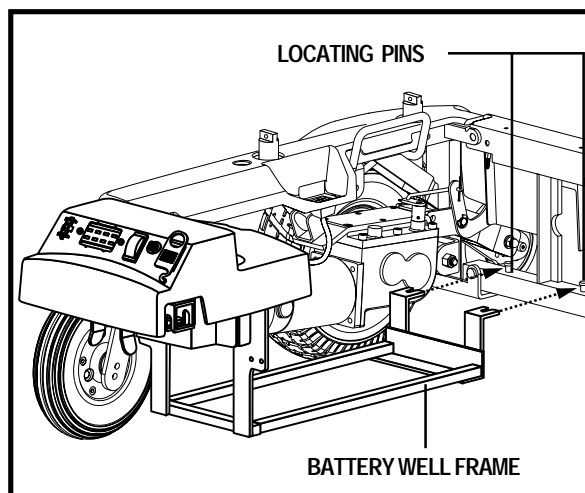

Figure 20. Connect Battery Well Frame
2. Grasp the front frame and fit the notch on the front frame bottom bar onto the locating pin on the lower section of the power base frame assembly. See figure 20.
6. Position the notches on the front of the battery well frame onto the locating pins on the front frame bottom bar. See figure 20.